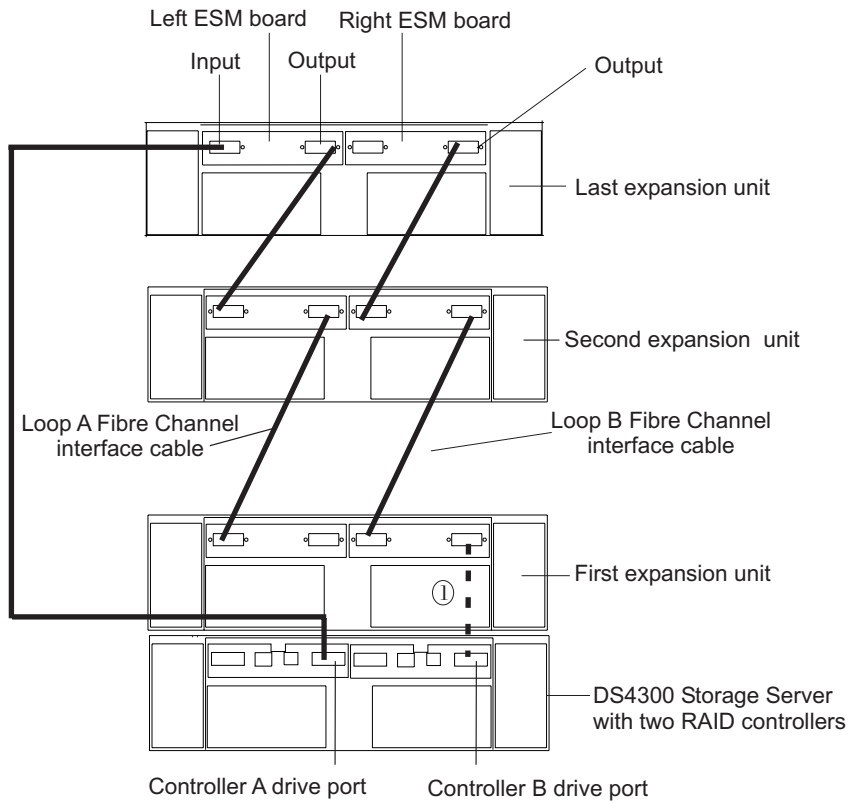

Figure 64. Disconnect the fibre channel cable from one storage server to the first EXP700
6. Disconnect the fibre channel cable that connects the right-hand storage server controller drive port to the first storage expansion enclosure. In Figure 64 on page 98, this cable is shown with a dashed line and marked 1. Mark the cable for later use. You will not reconnect this cable until you have replaced all the ESMs to be upgraded in the disconnected drive loop.
8. After you have upgraded and reconnected each ESM in the drive loop, reconnect the fibre channel cable from the controller drive port to the first EXP710 ESM port (disconnected in step 6.) In Figure 64 on page 98, this cable is shown with a dashed line and marked 1.